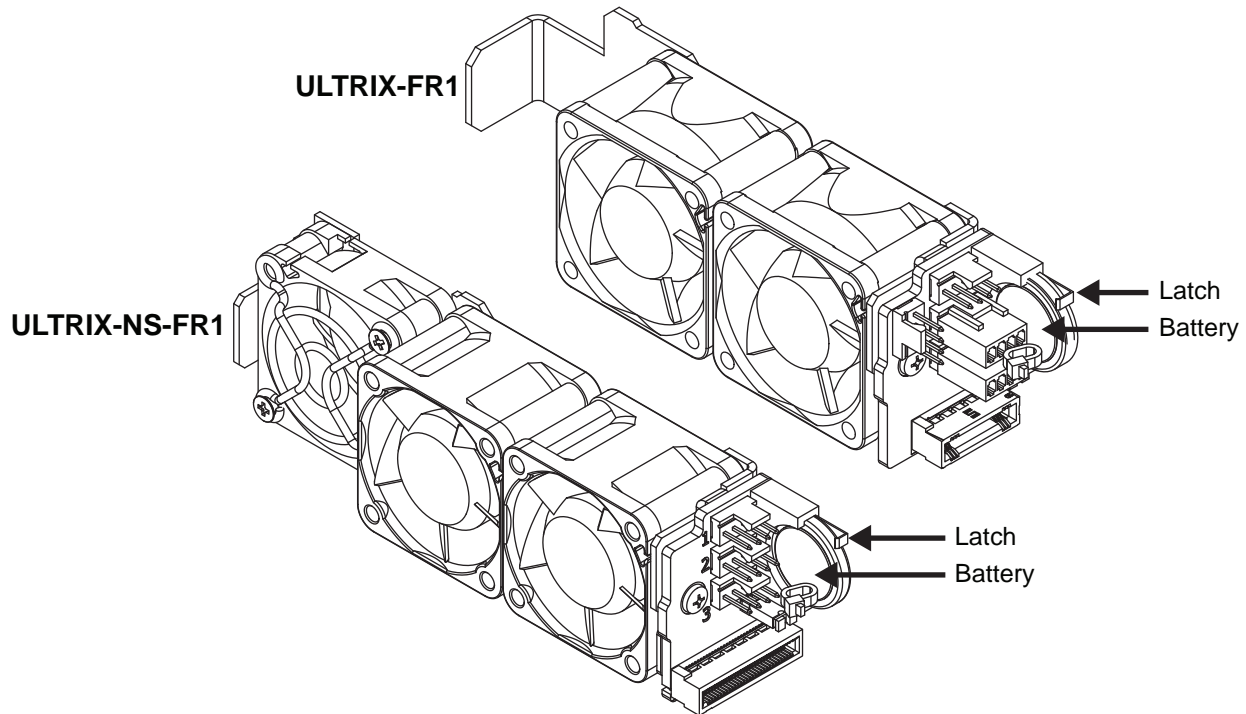

Figure 26.12 Battery Location inside the Cooling Fan Module — ULTRIX-FR1 and ULTRIX-NS-FR1
1. Locate and note the orientation of the failed battery inside the Cooling Fan Module. (**Figure 26.12**)